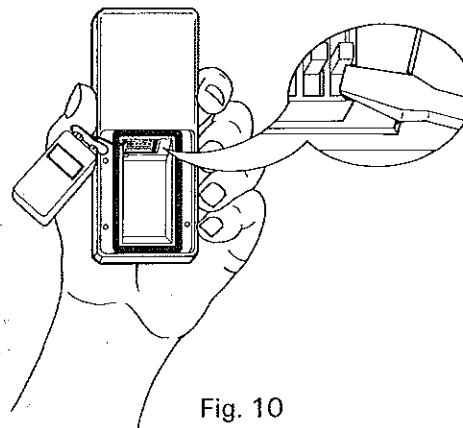

Fig. 10
1. Using a small probe, such as a pencil or small screwdriver, gently change the position of one or more of the switches, see Fig. 10.